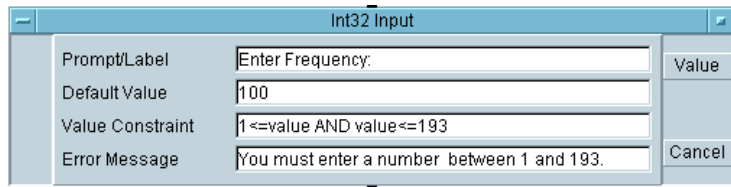

Figure 2-6. The Int32 Input Configuration Box
2. Change the `Value Constraints` to `1` on the low end and to `193` on the high end. Change the error message to reflect these new values, as shown in Figure 2-6. Finally, iconize the `Int32 Input` object.